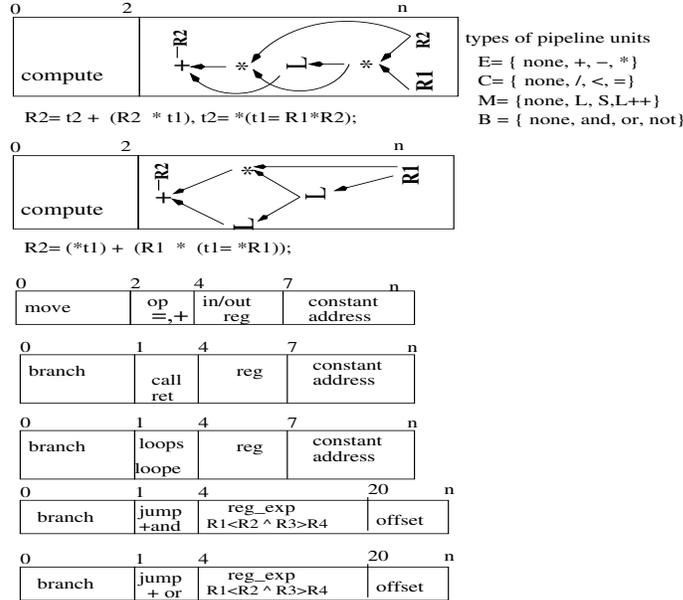

Figure 1: Instruction's format.
- The computational instructions are described by a directed graph of operations and arguments (as described in figure 1. The problem of selecting suitable coding of such directed graphs is left open.
There are four types of instructions as depicted in figure 1:
The compute instruction contains the coding of the circuit representation of the operations and their arguments (as depicted in figure 1). Note that each argument of a pipe unit can be either a register or an internal stage. The number of bits in an instruction n depends on the amount of bits needed for this coding. We assume that the maximal number of pipeline units k per pipe is a known constant.